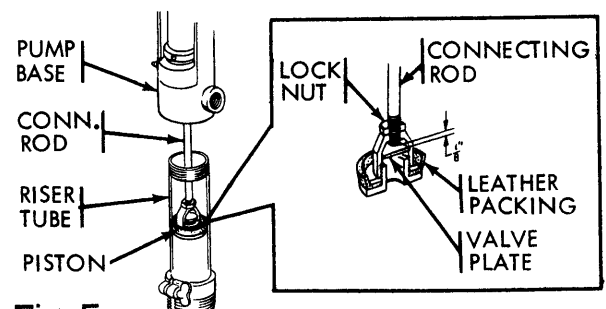

Fig. 5
(2) **FLUID PISTON:** Unscrew riser tube from pump base. Clean and inspect piston. Replace worn or damaged parts. Soak leather packing in light oil until flexible. When reassembling, allow valve plate $\frac{1}{8}$ in. travel. See Fig 5.